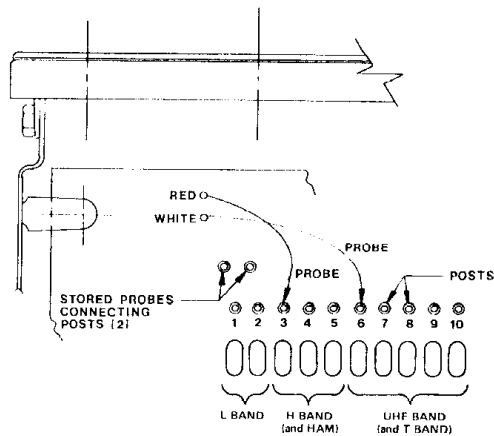

Figure 3
Low/High (and Ham)/Ultra High (and "T") Band Operation L/H/U/T: (Fig. 3)
2. Slide the red bandswitch probe over the first high band channel. (Fig. 3) All successive channels will be in the high band.
4. Slide the UHF band white bandswitching probe over the post of the first channel you desire to be programmed for UHF. All successive channels will be in the UHF and T bands. Install the desired UHF or T band crystals. For example, in Figure 3, we wish to have two crystals in the high-band, and five crystals in the UHF and T band. Insert the low band crystals in Channels 1 and 2. Place the red bandswitch probe on the post over Channel 3. Install the high band crystals in positions 3, 4 and 5. Place the white bandswitch probe on the post over Channel 6. Install the UHF and T crystals in positions 6, 7, 8, 9 and 10. This completes the installation of crystals for five-band operation.